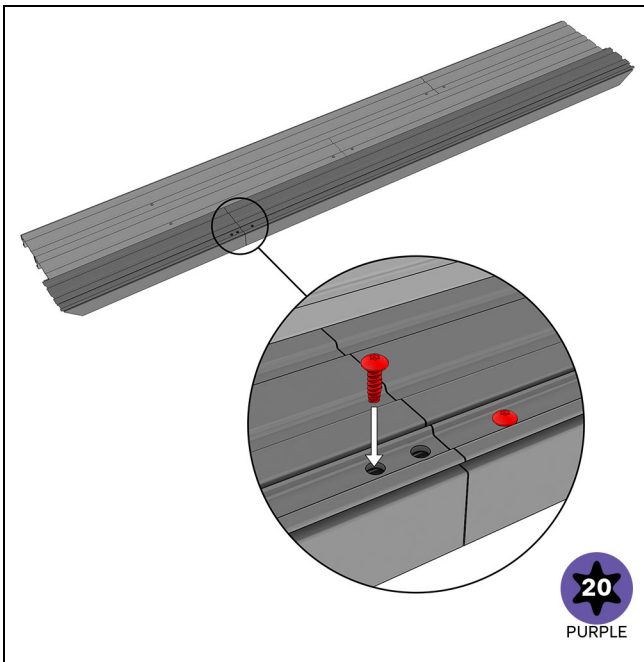

Figure 34
6. Fasten the head jamb splice key with #8 x 1/2" (13) screws. See Figure 34.